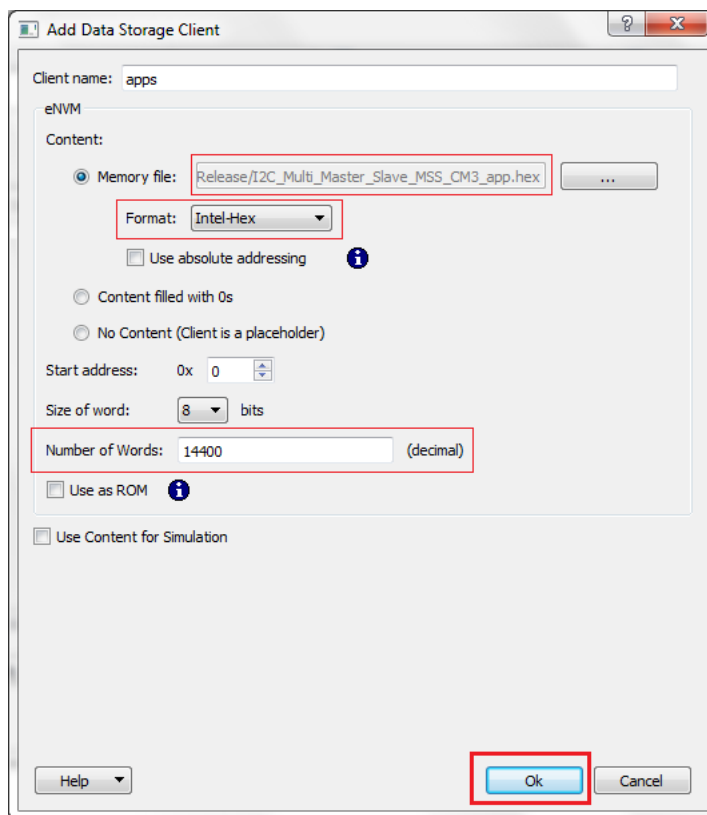

Figure 30 • Add Data Storage Client Window
7. Click **Ok** in the **Add Data Storage Client** window (see Figure 30).